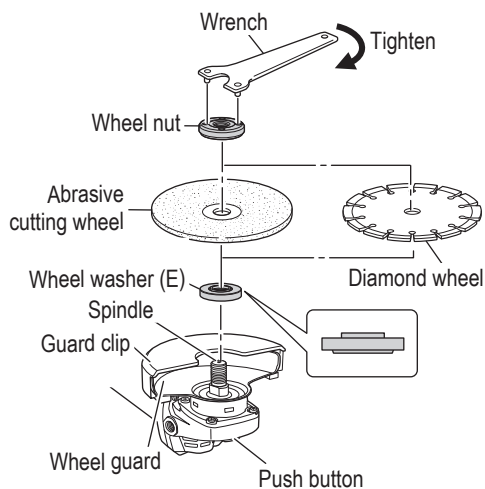

Fig. 20
- (5) While pushing the push button with one hand, lock the spindle by turning the abrasive cut-off / diamond wheel slowly with the other hand. Tighten the wheel nut by using the supplied wrench as shown in Fig. 20.